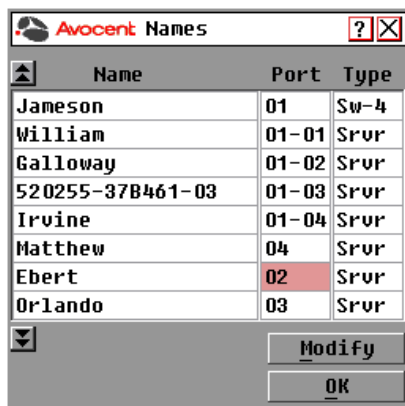

Figure 3.7: OSCAR Interface Names Dialog Box
2. Click *Setup - Names* to open the Names dialog box shown in Figure 3.7.